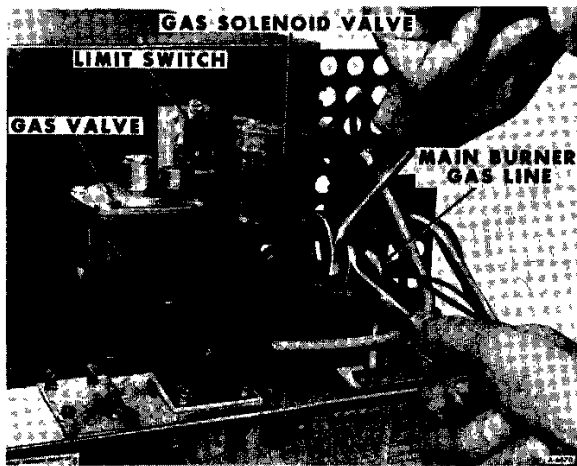

Figure 11 — Removing Gas Solenoid Valve
3. Remove gas solenoid valve from main burner gas line (Figure 11).
2. Connect gas solenoid valve to main burner gas line (Figure 11).